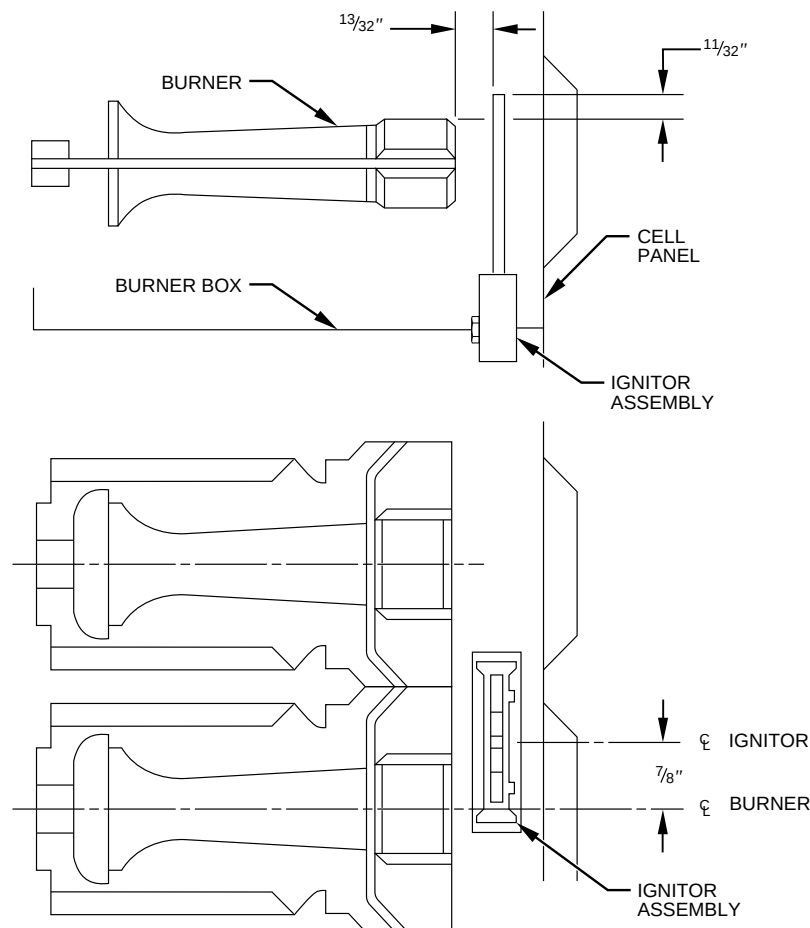

Fig. 10—Position of Ignitor to Burner
4. Reinstall manifold, orifice, and gas valve assembly in burner box. Ensure manifold seal grommet is installed properly and burners fit over orifices. (See Fig. 10 for ignitor position.)